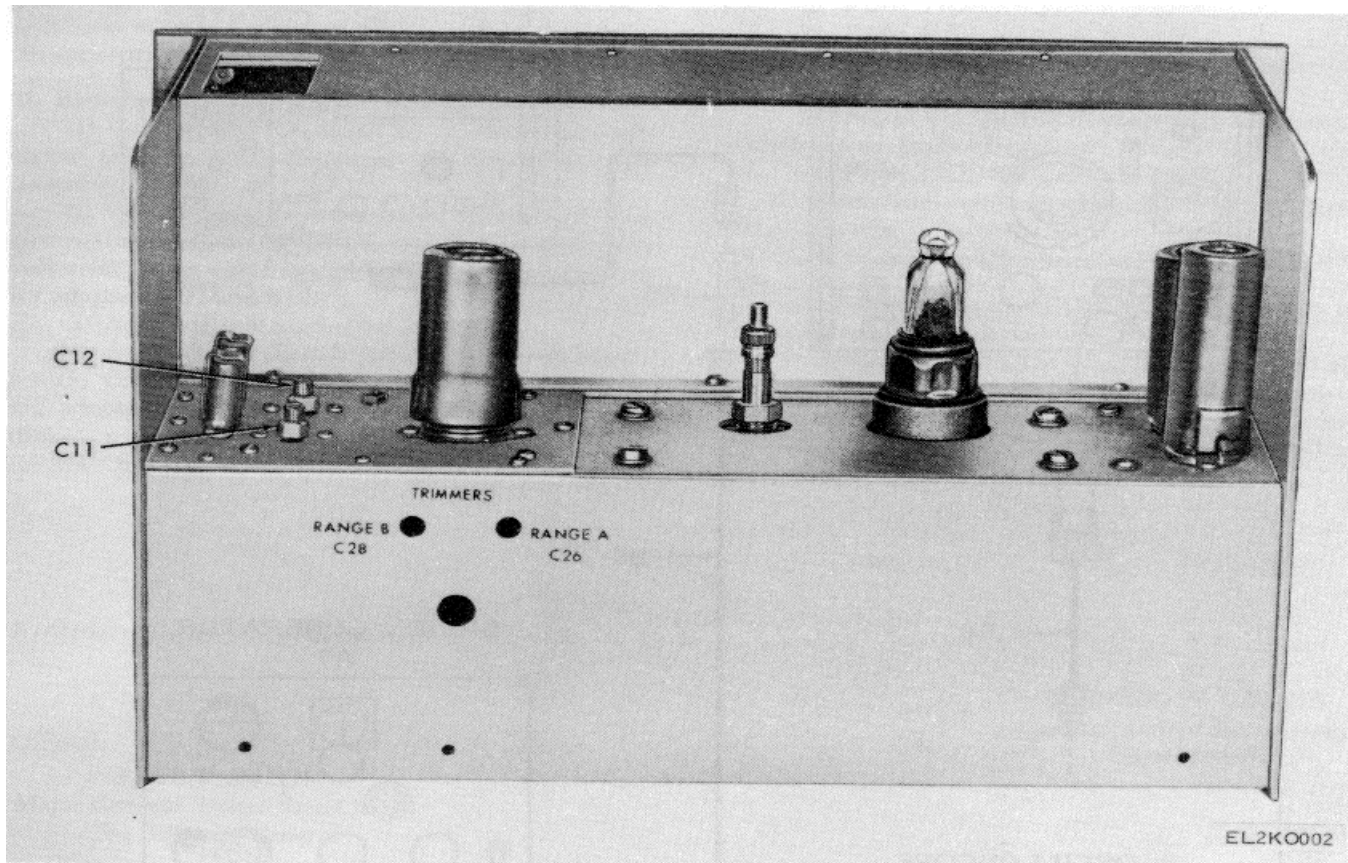

Figure 2. Frequency Meter AN/URM-32, rear view.
(1) If RANGE A requires adjustment, turn RANGE switch to RANGE A
(2) Loosen locking nut and adjust C12 (fig 2) (1-MHz trimmer) of TI for a 1000-kHz indication on electronic counter. Tighten locking nut (R)
(3) If RANGE C requires adjustment, turn RANGE switch to RANGE C
(4) Loosen locking nut and adjust C11 (fig 2) (2.5-MHz trimmer) of TI for a 2500-kHz indication on electronic counter. Tighten locking nut (R). Remove vector socket and reinstall V2